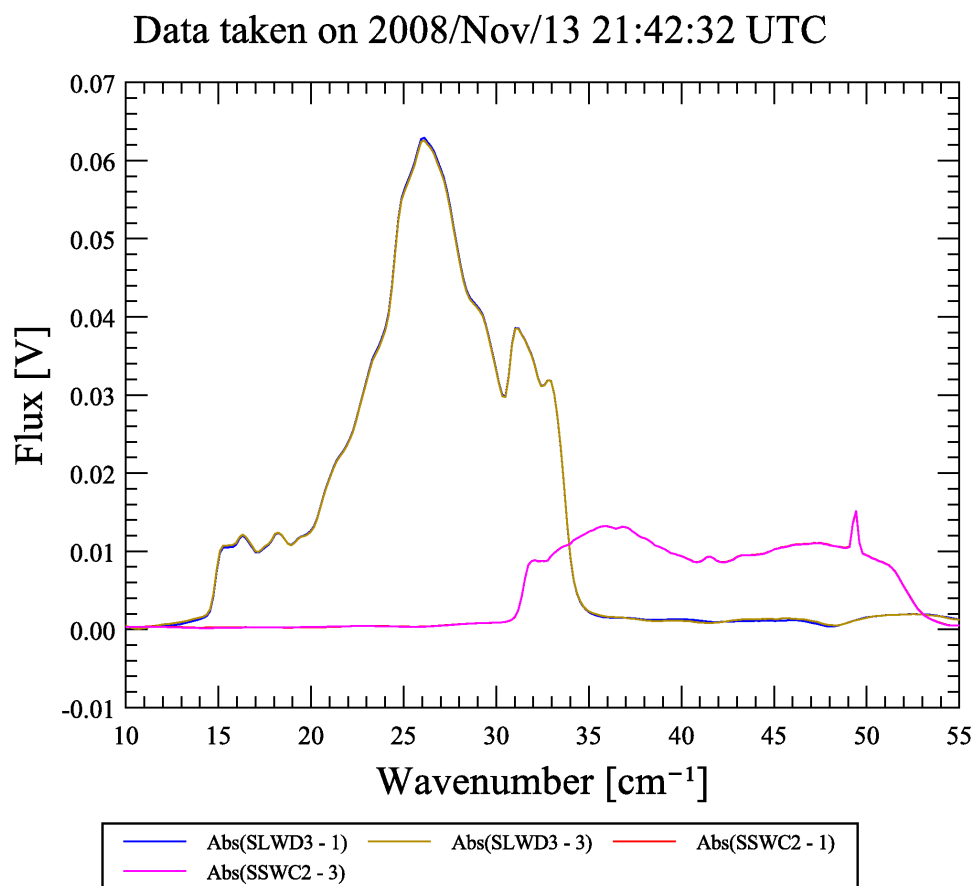

Figure 2.53. Overplot of data from two different detectors in two different detector arrays.
7. For an overplot, double-click with the left mouse button on an additional detector to plot its data, e.g. SSWC2 (see Figure 2.53). A single click would have created a new plot containing data from SSWC2 only.